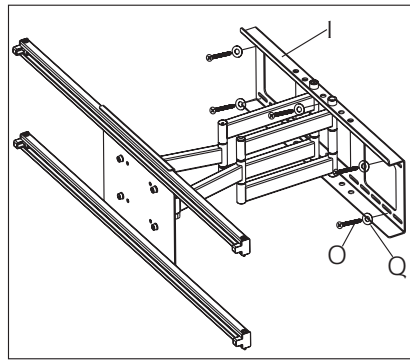

Fig. 2c
**NOTE:** The cantilever arm and wall plate are five mounting positions. The center position is shown Fig.2c. Cantilever arm must be mounted with one mounting hole separating them.
Drill 6 mounting holes with 5mm bit. Mounting holes should be 80mm deep. Mount cantilever assembly to wall using the 6 long bolts(O) and washers(Q). (Fig.2c)
Drill 6 mounting holes with 10mm masonry bit. Mounting holes should be a minimum of 80mm deep. Insert 6 wall anchors into holes, and tap flush with hammer. Mount cantilever assembly to wall using the 6 long bolts(O) and washers(Q)(Fig.2c).